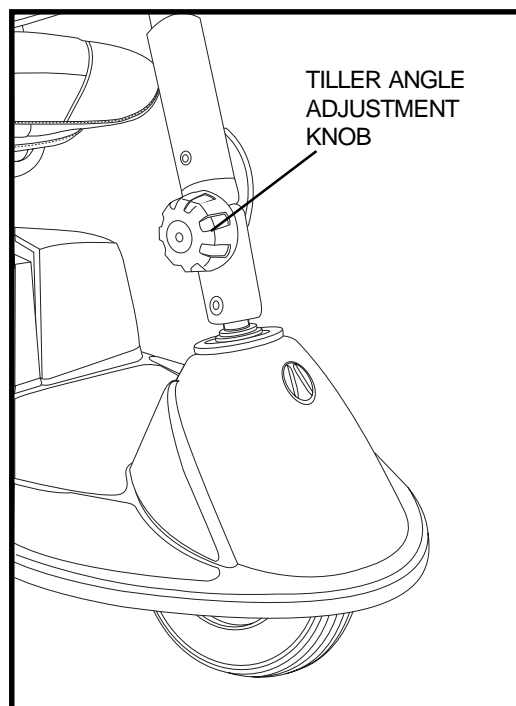

Figure 10. Tiller Angle Adjustment Knob
1. While supporting the tiller, turn the tiller adjustment knob counterclockwise to loosen the tiller. See figure 10.